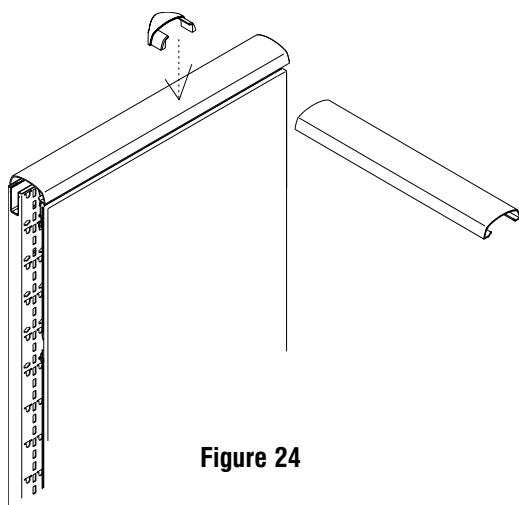

Figure 24
6. Install top cap trim as shown in **Figure 24.**